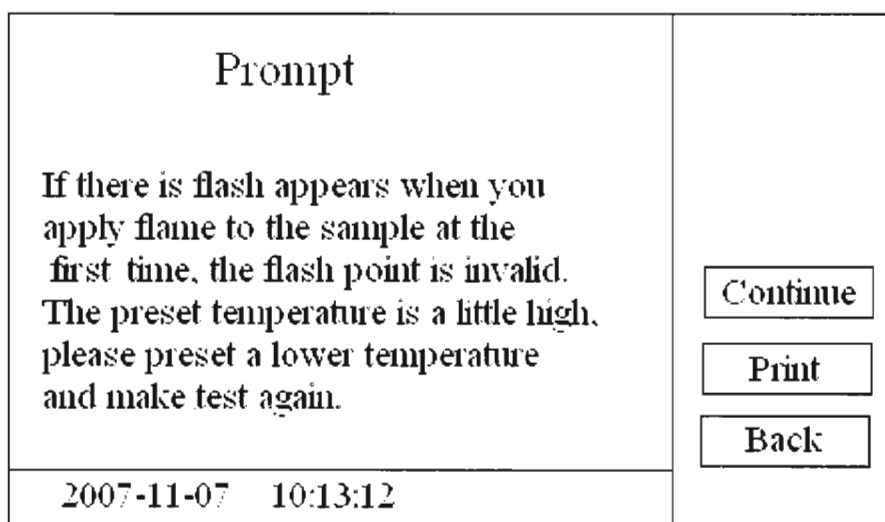

Fig.11
1. When the flash point is detected when it makes flame application at the first time, the test data is invalid. Then the test arm will be raised up, and the test data will not be saved. Please make test again. The prompt interface is shown as Fig.11.